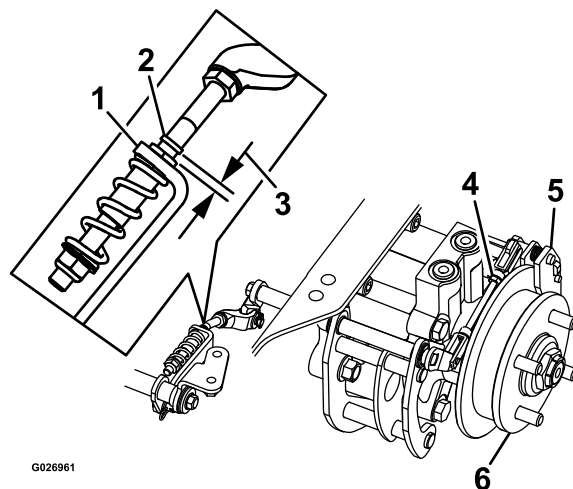

Figure 81
8. Check to see if there is a visible gap between the L-bracket and the linkage stop (Figure 81).